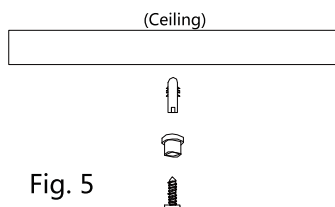

Fig. 5
1. Drill pilot holes in the mounting surface. Install the expansion screws and connectors. (Fig. 5)